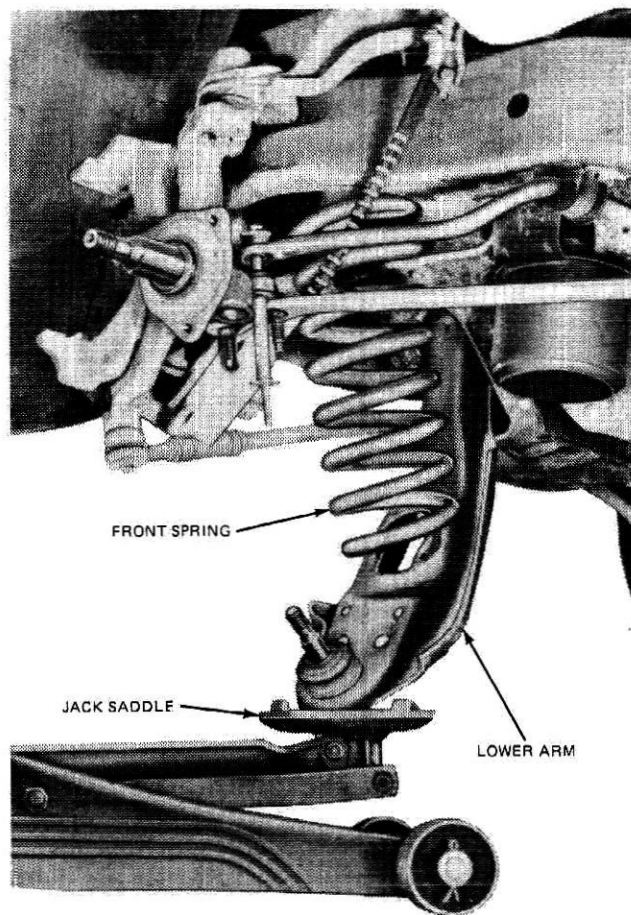

FIG. 5 Removing Front Spring—Lower Arm Replacement—All Cars
9. Position a floor jack under the lower arm (Fig. 5).